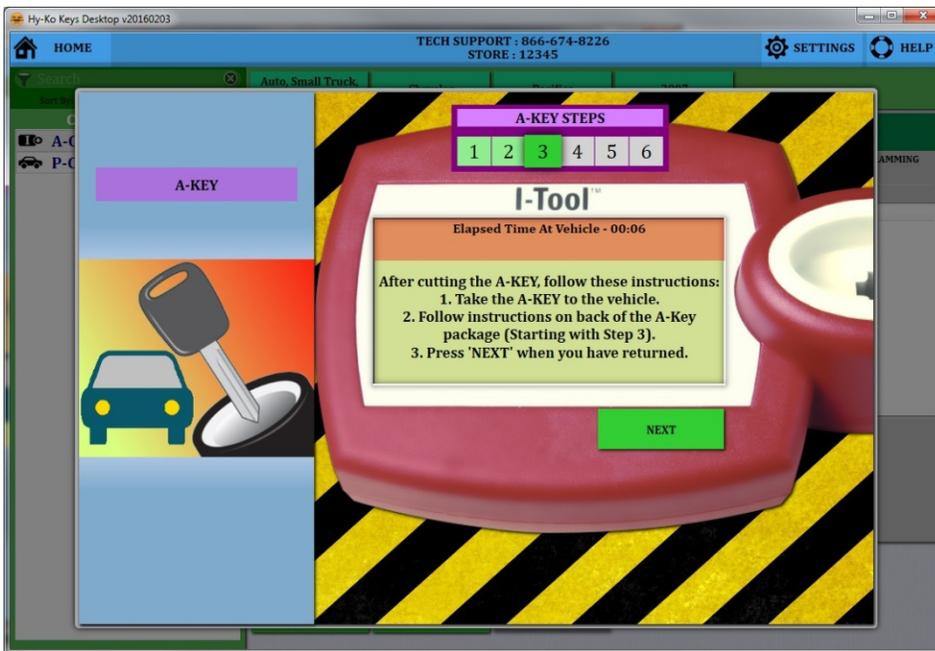

fig. 87
- When the key is fully initialized, you will have to cut it and then take it out to the vehicle to go through an on-board programming procedure (see fig. 87). At this point, you can remove the new A-Key from the I-Tool.